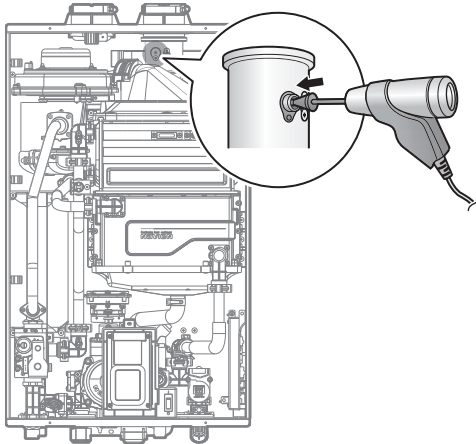

Figure 7
- Loosen the screw, rotate the plate and remove the gasket to access the emissions monitoring port as shown in Figure 7.
- Insert the analyzer into the port (Figure 7).